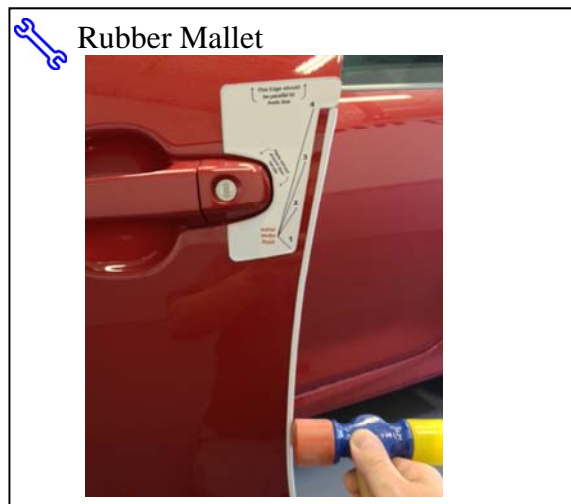

Fig. 2-7
(4) Continue progressively tapping the channel onto the door edge, proceeding down the entire length of the DEG. Use your other hand to steady and guide the DEG as you go (Fig. 2-7).
(5) With the DEG engaged along its full length, begin again at the top of the DEG, progressively tapping with moderate blows **(use the soft side of the mallet)** down the entire length to ensure the channel is fully seated.
- (6) Carefully use the firmer side of mallet to **very lightly** tap down the length of the DEG. If it is fully seated, you should hear a solid report from the tapping.
**⚠ NOTE:** The intended purpose of this step is to listen for a solid report in response to light taps to confirm the DEG is fully seated. **THE FIRMER SIDE OF THE MALLET CAN DAMAGE THE DEG IF USED WITH MODERATE OR HEAVY BLOWS.** If the audible report received with a light tap indicates the DEG is not fully seated, repeat Steps 2(b)(5) and 2(b)(6).